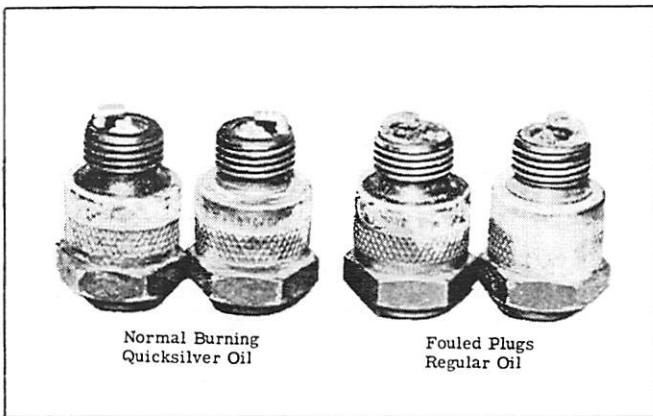

FIGURE 17. Fouled Plugs
1. Much of the plug trouble is simply lead fouling, resulting from the presence of much tetraethyl lead in automotive gasolines. The octane rating of automotive fuels is constantly being increased to suit the high compression ratios resulting from the automobile "horse-power race", and the quantity of tetraethyl lead required has reached 3.04 cubic centimeters per gallon in some cases. Generally speaking, there is little to choose between regular and premium grades of fuel in this respect. It should also be noted that the lead content of a given brand of fuel can vary considerably with location, being for one make of regular gasoline 0.58 c.c. in Wichita, Kansas, and 2.95 c.c. in Dallas, Texas — an increase of over 400 percent. There is no practical way of removing this lead from the fuel in the field. Lead fouling may be identified by the presence of small yellow or brown globules on the plug. (See Figure 17.)